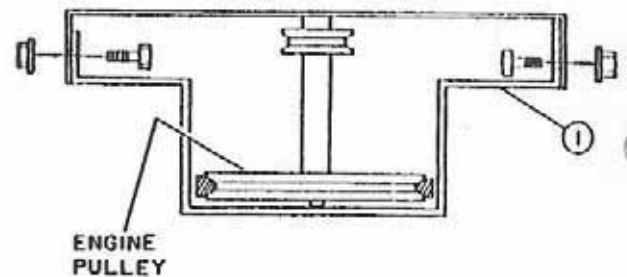

FIGURE 12
- g) On tractor with manual PTO clutch: Remove the belt guide on the tractor engine attachment drive pulley and install the bent flat bar drive pulley guide (fig. 12, item 1) inside the tractor frame. On the left hand side, use the tractor hole  $7 \frac{11}{16}$ " from the center of the front axle. The left hand side of the guide should be higher. On the right side, use the hole  $8 \frac{5}{16}$ " rear of the center of the front axle. Secure tightly with two  $\frac{3}{8}$  X  $\frac{3}{4}$ " bolts and nuts.